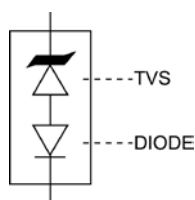
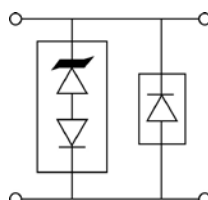

FIGURE 2
FIGURE 3
The TVS low capacitance device configuration is shown in figure 2. As a further option for unidirectional applications, an additional low capacitance rectifier diode may be used in parallel in the same polarity direction as the TVS as shown in figure 3. In applications where random high voltage transients occur, this will prevent reverse transients from damaging the internal low capacitance rectifier diode and also provide a low voltage conducting direction. The added rectifier diode should be of similar low capacitance and also have a higher reverse voltage rating than the TVS clamping voltage V_C . The Microsemi recommended rectifier part number is the "ELCR80" for the application in figure 3. If using two (2) low capacitance TVS devices in anti-parallel for bidirectional applications, this added protective feature for both directions (including the reverse of each rectifier diode) is also provided. The unidirectional and bidirectional configurations in figure 3 and 4 will both result in twice the capacitance of figure 2.